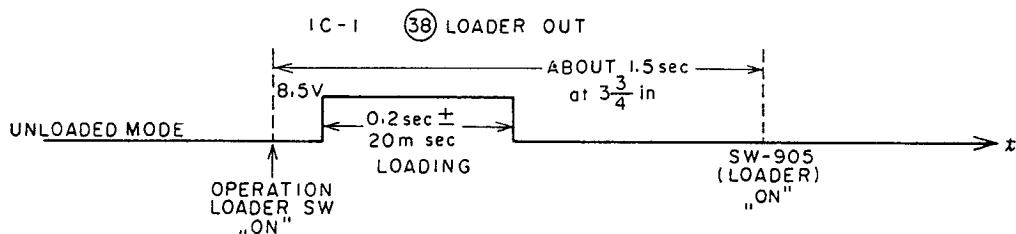

Fig. 7
1) Loading, Unloading Mode (Refer to Fig. 7)